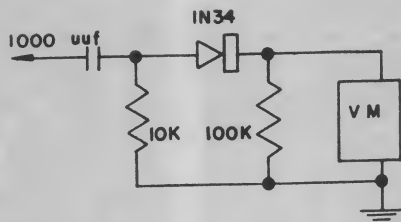

Fig. 10-4. Detector probe for voltmeter. Courtesy Hallicrafters.
*a. C-W Signal Generator and VTVM.* A trap can be aligned by setting the c-w generator to the correct frequency and injecting its signal at maximum generator output. A voltmeter is used as an indicator, at the output of the detected trap signal (for example, output of video detector). If the trap signal is not detected (for example, 4.5-mc trap in plate of video amplifier), a detector probe must be used with the voltmeter (see Fig. 10-4).